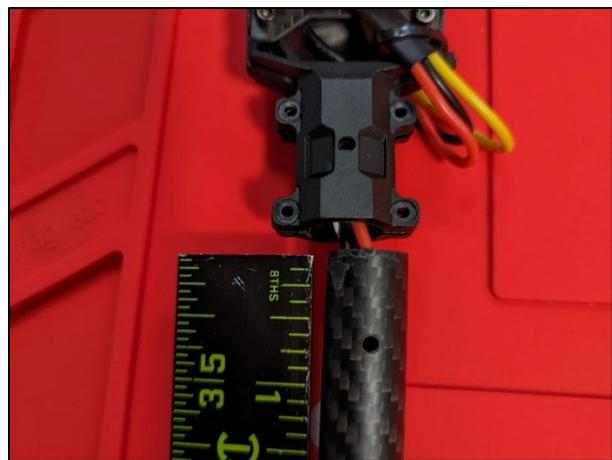

Figure 12 The correct orientation of the arm tube
2. Connect the arm tube to the motor wire housing ⁷, noting the orientation shown in **Figure 12** ⁸.